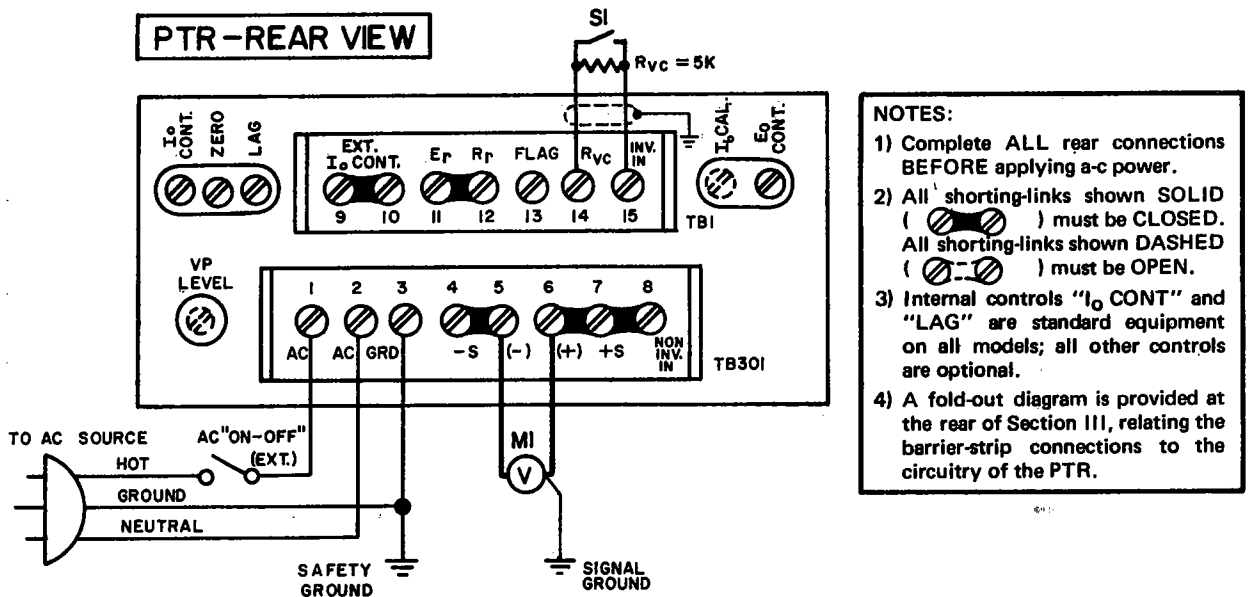

FIG. 3-16 CONNECTIONS FOR PROGRAMMING RATIO CALIBRATION.
b) Connect calibration setup as shown in FIG. 3-16 and connect the power supply to the a-c power input source.